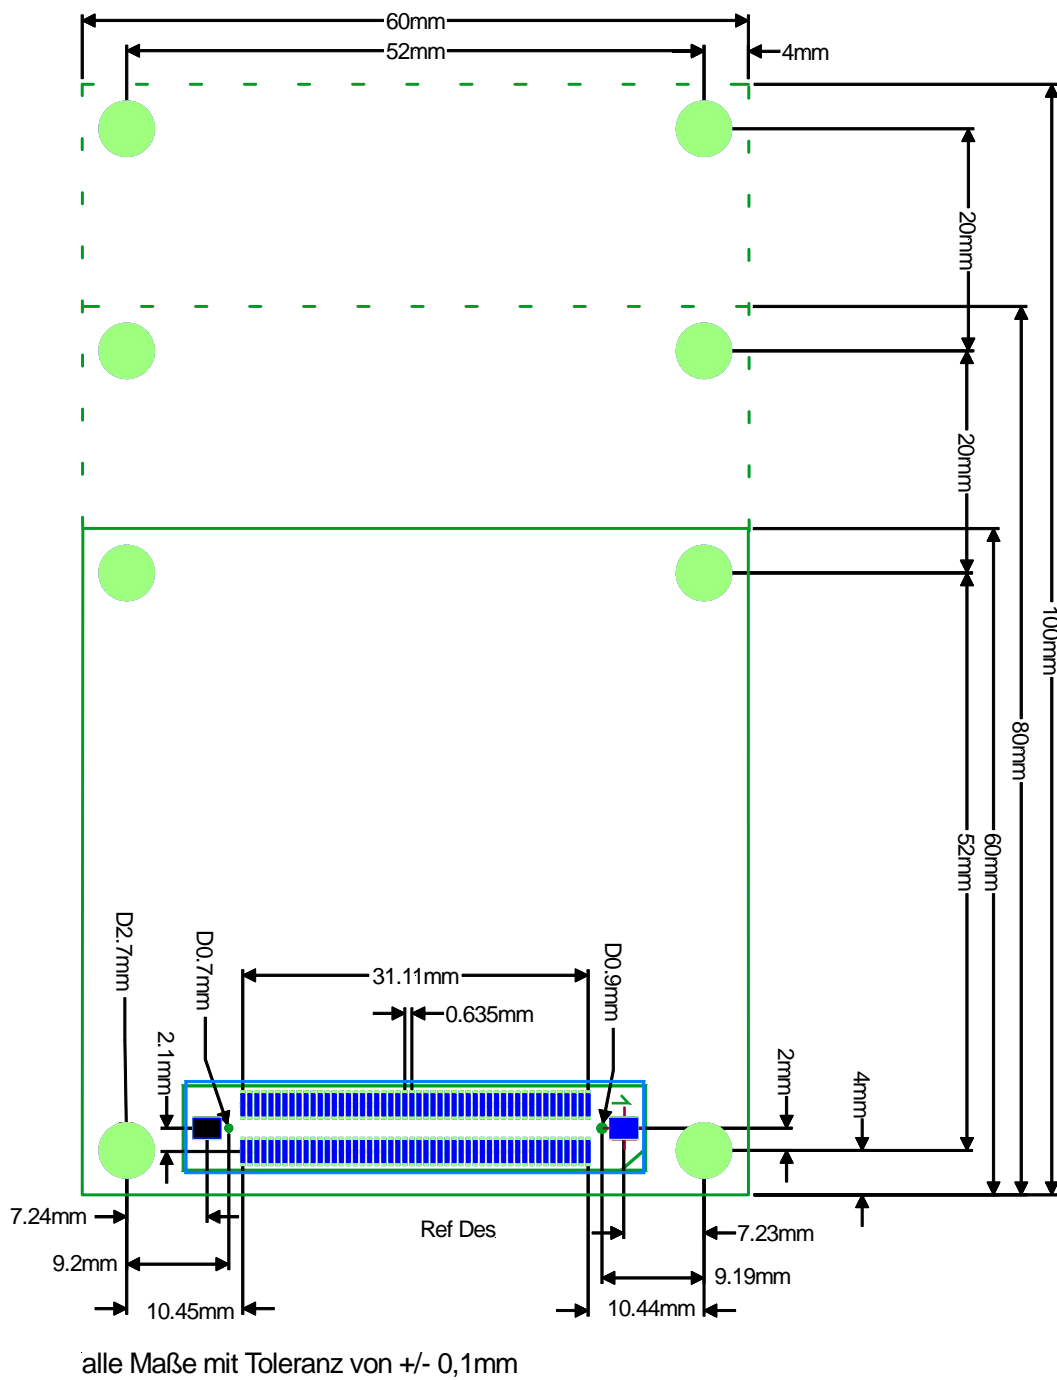

Figure 14: Footprint of the phyCARD-L
4. the link "Carrier Board" within the category Dimensional Drawing leads to the layout data as shown in *Figure 14*. It is available in different file formats.